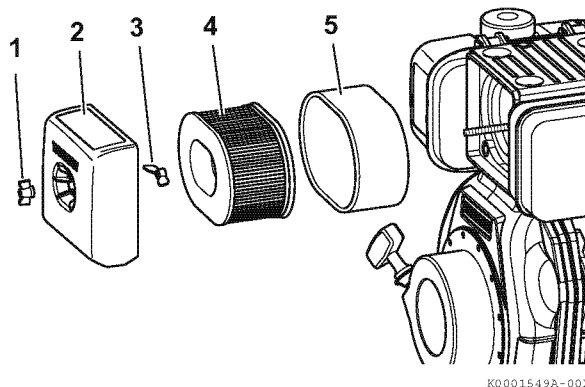

Figure 8
1. Remove the wing nut (1, **Figure 8**).
2. Remove the air cleaner cover (2, **Figure 8**).
3. Remove the wing nut (3, **Figure 8**).
4. Remove the air cleaner element (4, **Figure 8**) and outer foam element (5, **Figure 8**).
7. Clean the inside of the air cleaner cover (2, **Figure 8**).
8. Install the air cleaner element (4, **Figure 8**) into the air cleaner case. And check accurately that the air filter cartridge is properly fitted and aligned with its own seat of the air filter box.
9. Install the wing nut (3, **Figure 8**) and hand tighten. Overtightening the wing nut will damage the air cleaner assembly.
10. Slide the outer foam element (5, **Figure 8**) over the air cleaner element (4, **Figure 8**).
11. Install the air cleaner cover (2, **Figure 8**).
12. Install the wing nut (1, **Figure 8**) and hand tighten. Overtightening the wing nut will damage the air cleaner assembly.